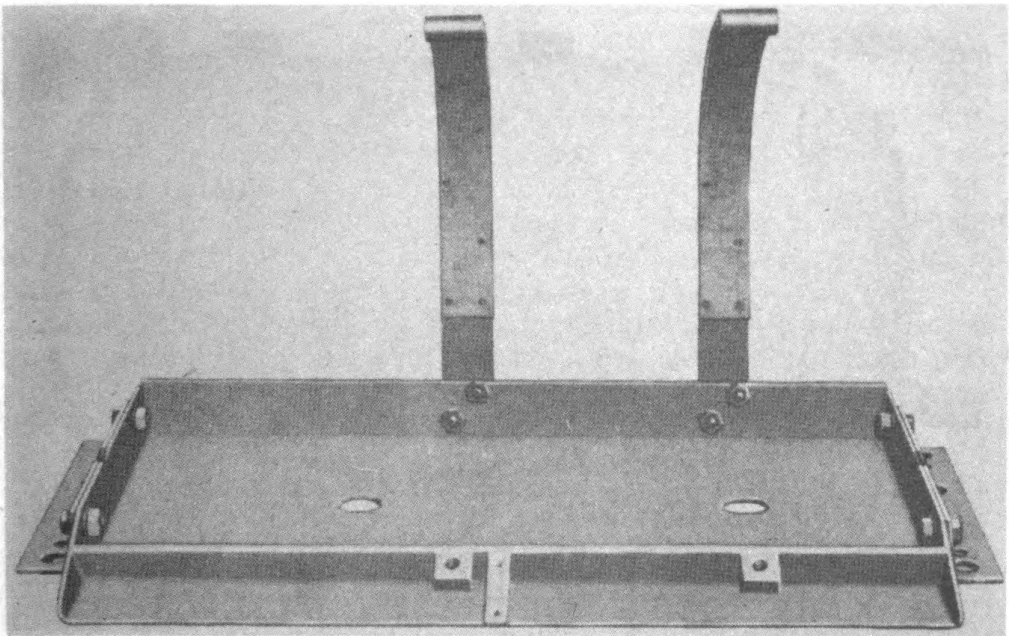
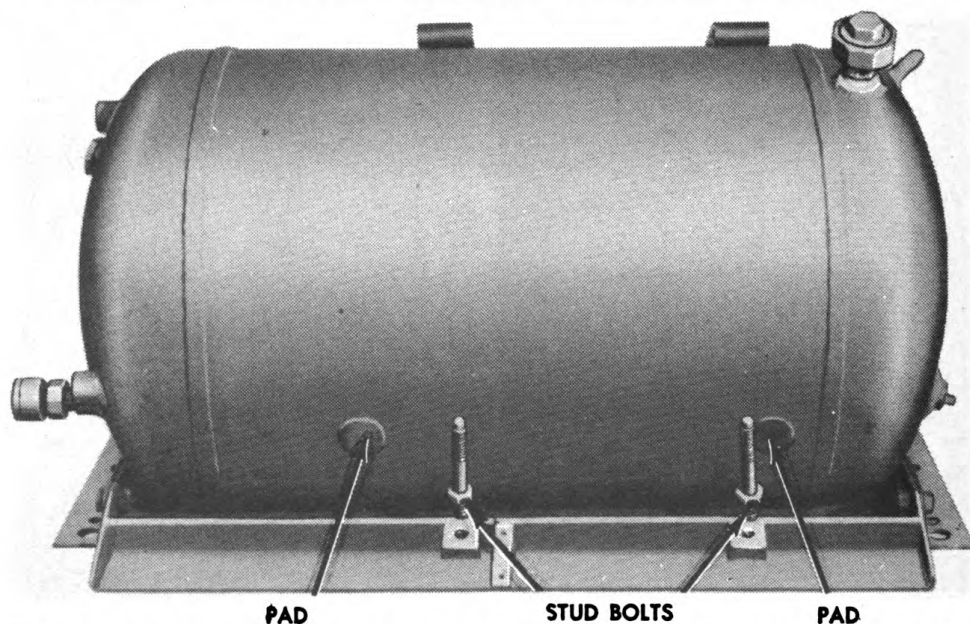
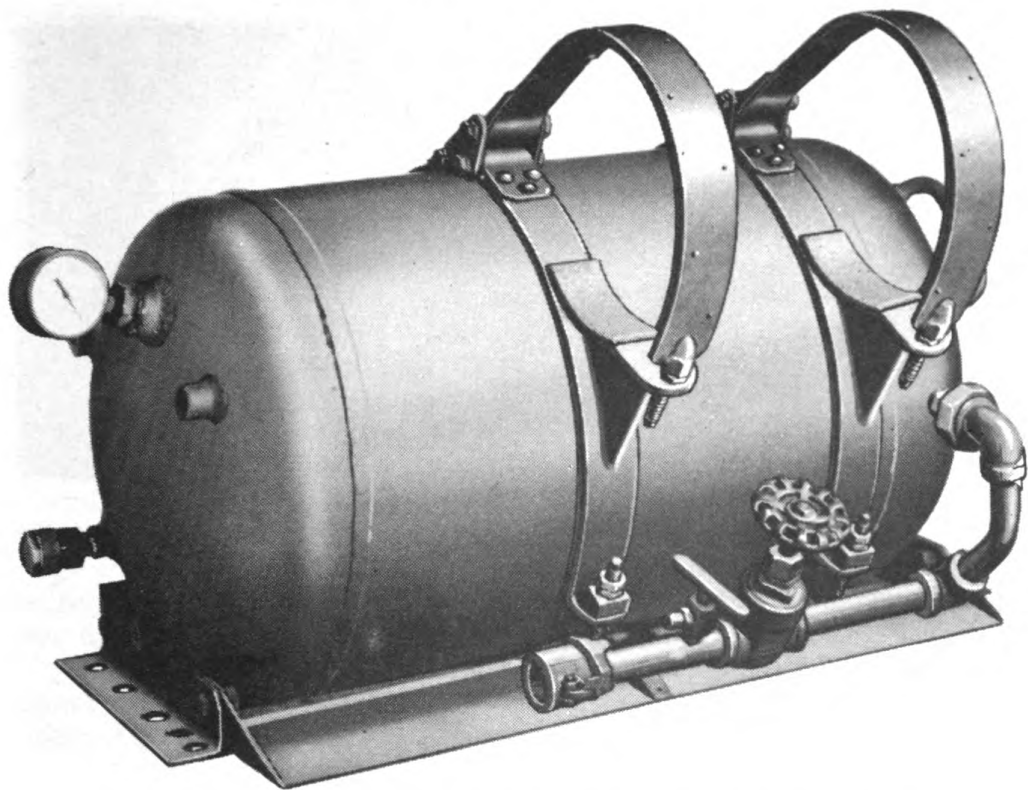

Fig. 15. Back fuel container straps bolted on baseplate of sponson fuel group.
Fig. 16. Fuel container of sponson fuel group on baseplate, prior to positioning fuel container and stud bolts.
Fig. 17. Straps tightened on fuel container of sponson fuel group. Pressure container straps are not yet tightened. Fuel outlet piping is installed.
b. Back fuel container straps. (1) Place the two back fuel container straps in position.
(2) Secure straps by two bolts, two lock washers, and two nuts (fig. 15).
c. Fuel container. (1) Attach rope to handle of fuel container and hoist the container to top of turret. Use care to protect fuel container outlet and pressure inlet to fuel container.
(2) With one man in turret to receive fuel container, place fuel container on floor of turret. Remove rope.
(3) Slide fuel container to opening in turret basket, in back of assistant driver's seat. Pass container to man in assistant driver's compartment, who, in turn, slides container onto baseplate (fig. 16).
(4) Drop the two circular metal pads on bottom of fuel container into two locating holes in baseplate. The fuel container is now located so that pressure line plate is forward and fuel container outlet is at rear and right of assistant driver's seat. Move fuel group as necessary on sponson shelf to facilitate installation.
(5) Install the two stud bolts in front of the baseplate.
d. Front fuel container straps and pressure container straps (fig. 17).
(5) Tighten union nut at fuel container outlet with two wrenches. Figure 17 shows fuel outlet piping installed.